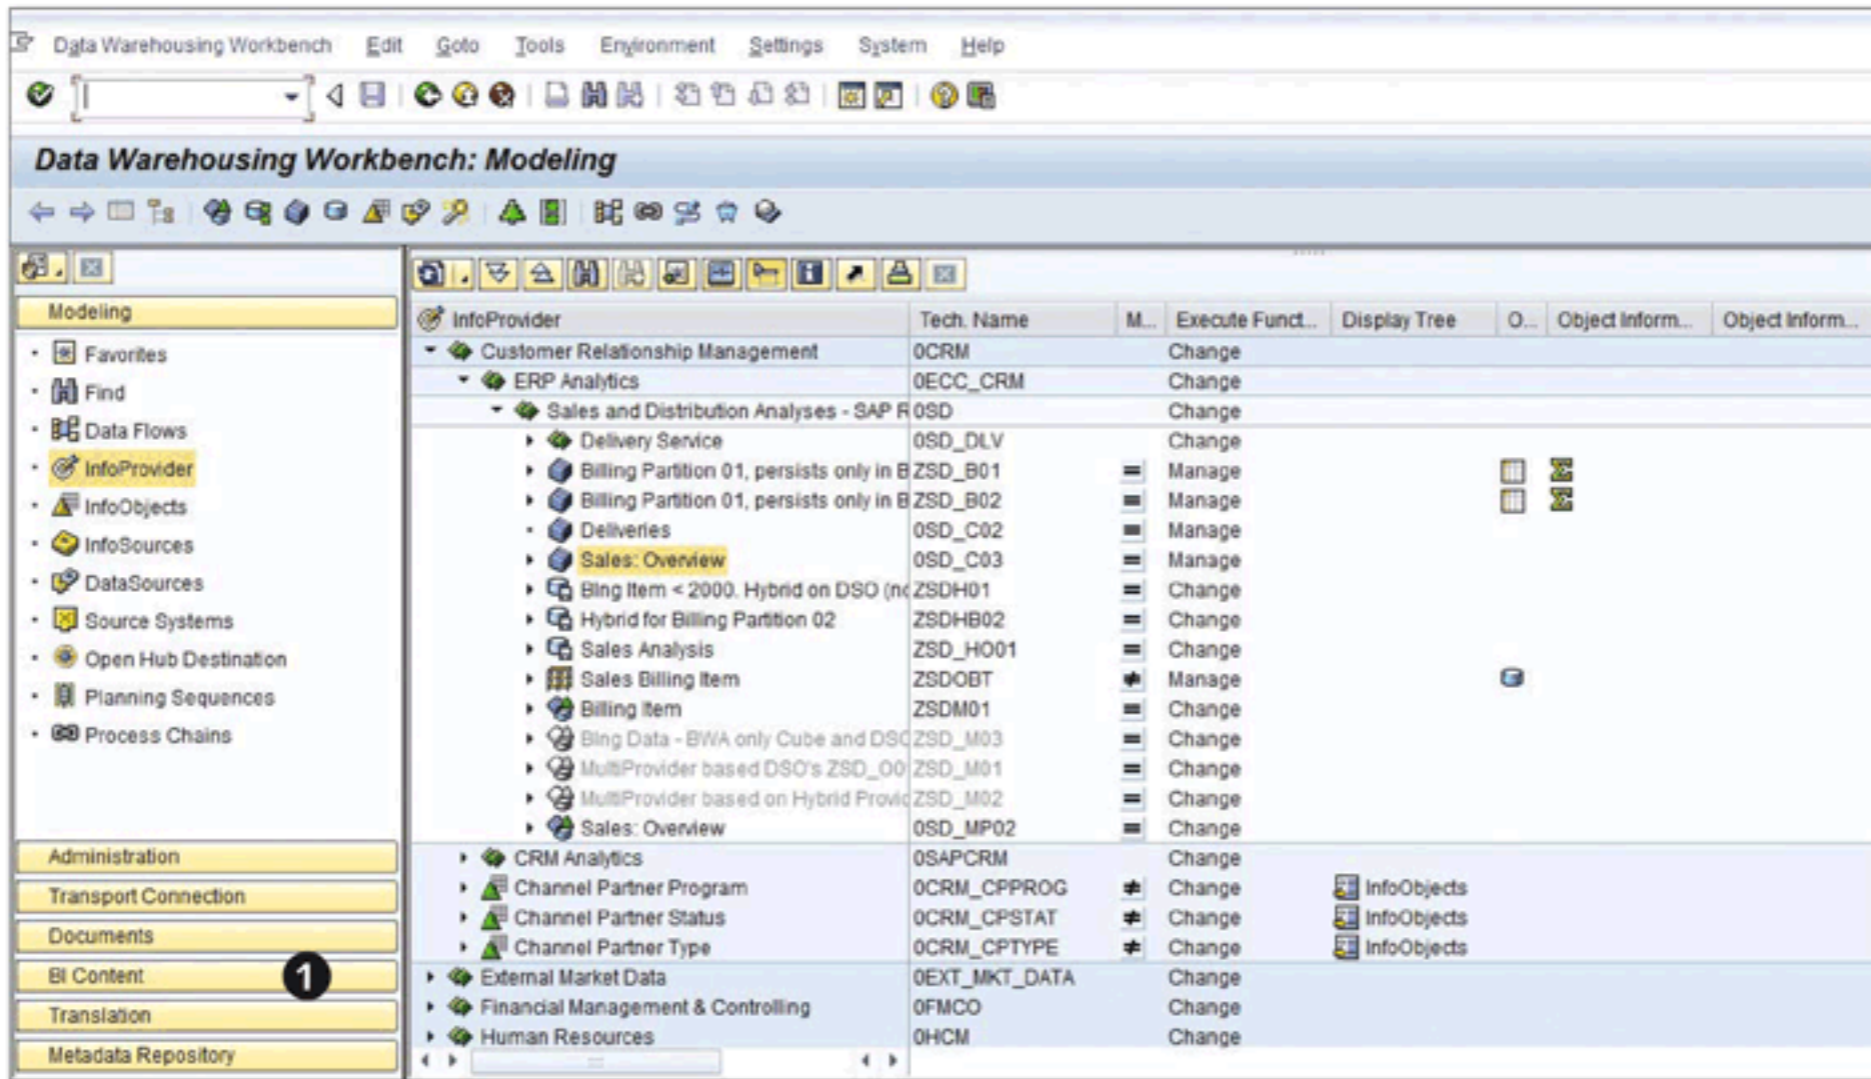

Figure 2.22 Starting BI Content
SAP Business Content plays a crucial role in any SAP NetWeaver BW project. In this section, we explain the process of activating Business Content. Start the DWW using Transaction RSA1, and click on BI CONTENT, as shown in ❶ of Figure 2.22.